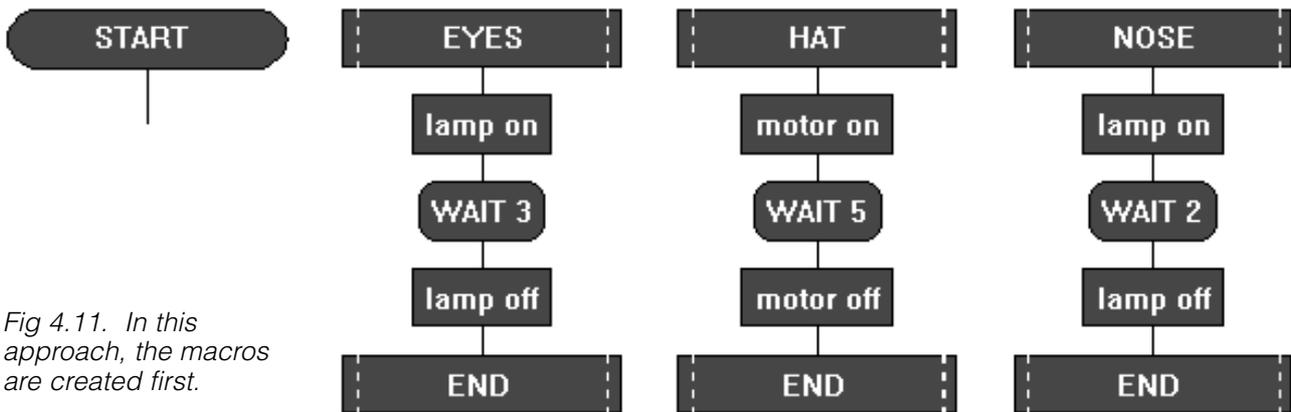

Fig 4.11. In this approach, the macros are created first.
1. A separate macro is built and tested for each one of the three elements, as shown in fig 4.11.